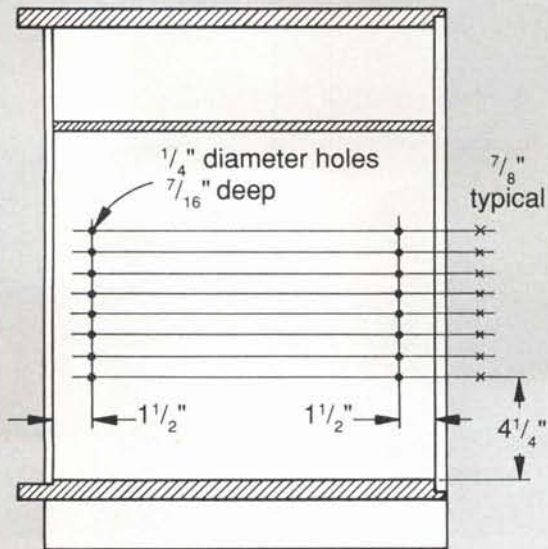

Figure 3. Hole Pattern for Adjustable Shelf Supports
If you plan to use shelves in the cabinet, now is the time to drill the shelf support holes on the inside faces of the sides. Just follow the pattern shown in Figure 3, and drill them 1/4" deep. Whatever the intended use for your cabinet, it's a good idea to include these holes; then you can install shelves at any time. Put the sides away for the time being, and we'll go on to the top and bottom panels (B).